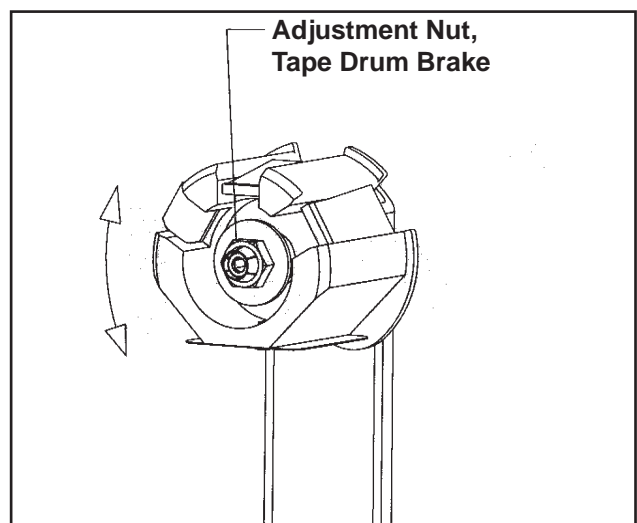

Figure 5-3 – Tape Drum Friction Brake
**Note** – To set up 72mm tape drum for 48mm tape, disassemble tape drum from bracket and install lock nut between tape drum and bracket as shown in inset, **Figure 5-3**.
#### Tape Drum Friction Brake – Figure 5-3